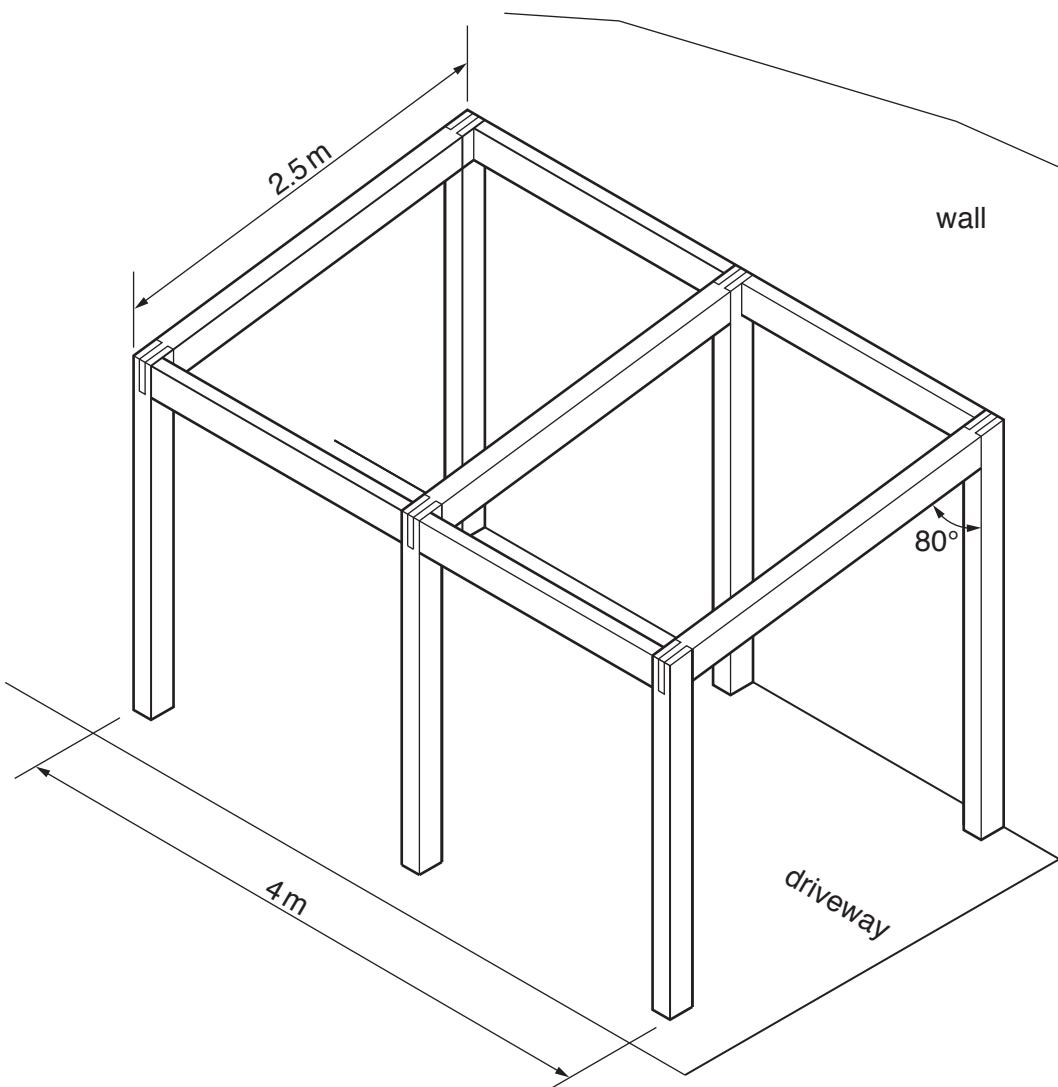

Fig. 6
- (iii) Fig. 6 shows a frame for a carport. The roof is to be covered using six uncut corrugated plastic sheets 2600 mm × 800 mm.
Draw on Fig. 6 to show **two** of the corrugated plastic sheets correctly positioned on the roof frame.